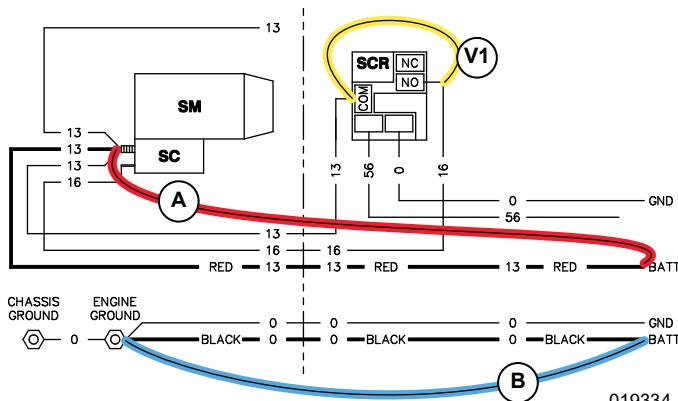

Figure 3-46. Voltage Drop Connections
2. See Figure 3-46. Jump Wire 13 to Wire 16 at the SCR – if battery voltage is good, the starter should start cranking. If it does, do a wiggle test on battery cables, terminals and ground connections
4. See **Figure 3-46**. Make the following measurements while Wire 13 and Wire 16 are still jumped together.